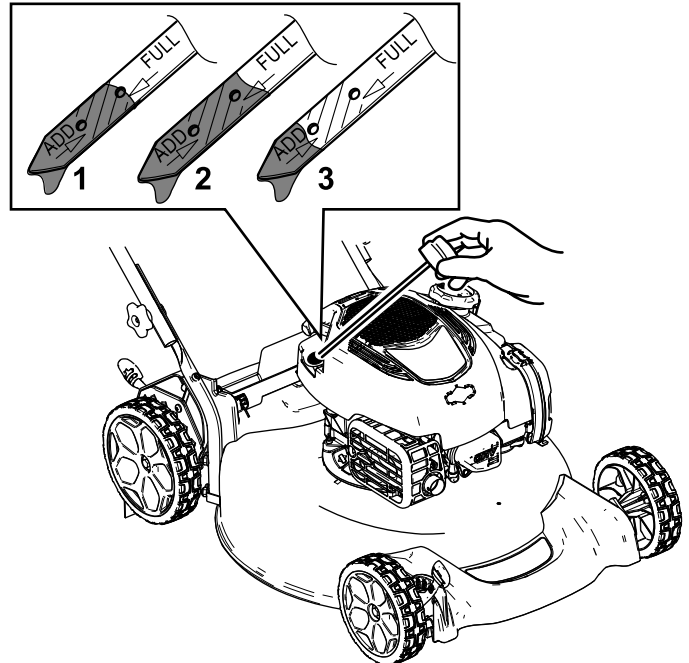

Figure 13
2. Remove the dipstick by rotating the cap counterclockwise and pulling it out (Figure 13).
5. Read the oil level on the dipstick (Figure 13).
- If the oil level on the dipstick is too low (Figure 13), carefully pour a small amount of SAE 30 or SAE 10W-30 detergent oil into the oil-fill tube, wait 3 minutes, and repeat steps 3 through 5 until the oil on the dipstick is at the correct level. For the oil type, refer to Changing the Engine Oil \(page 16\).
- If the oil level on the dipstick is too high (Figure 13), drain the excess oil until the oil on the dipstick is at the correct level; refer to Changing the Engine Oil \(page 16\).